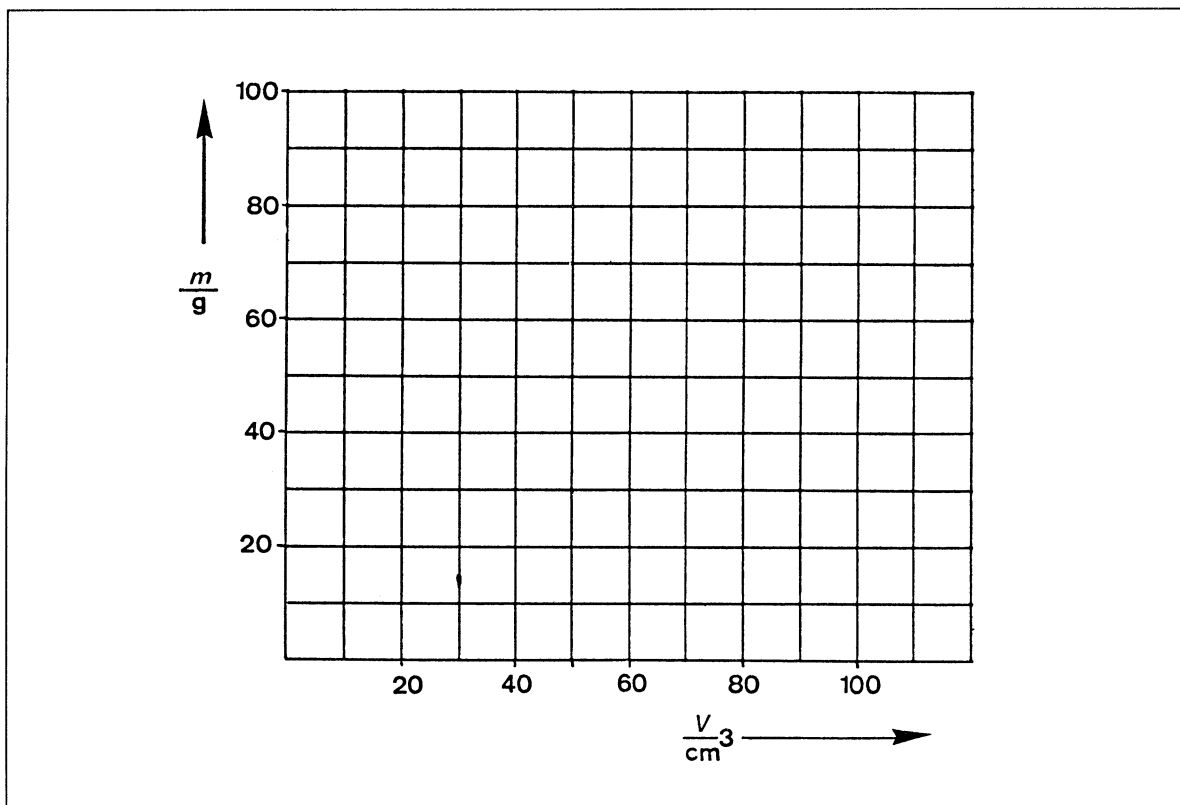

Fig. 3
- Illustrate the mass m of the water as a function of volume in the form of a graph ► Fig. 3.